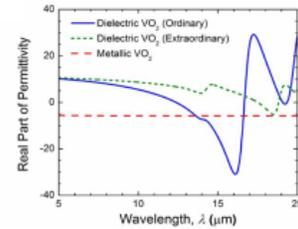

Fig. 2: Real parts of permittivity of VO2 at different phases
- The simulation result of real parts of permittivity at different wavelength is as shown in fig. 2.